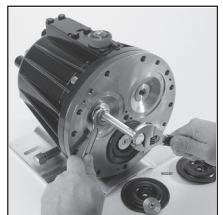

Figure 9
3. Hold the hex end of the Plunger Guide Lifter with one wrench while tightening the hex nut (Figure 9).